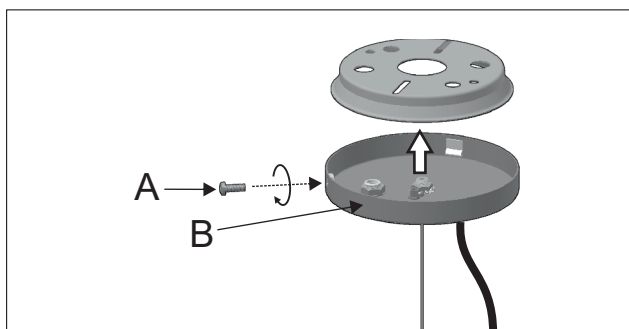

Figure 4
4 - Place the canopy (B) and fasten the side screw (A). Figure 4.